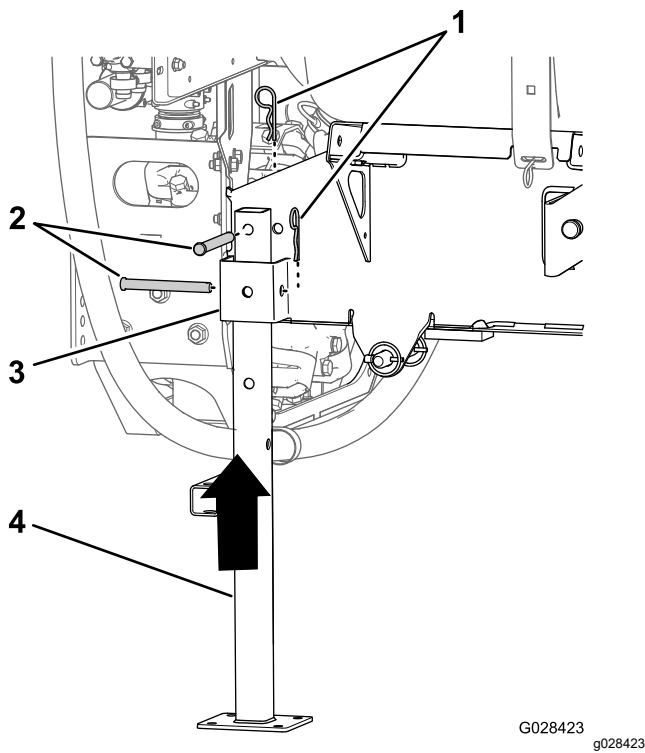

Figure 100
5. Align the rear jack stand with the rear jack-stand receiver (Figure 100).
6. Align the hole in the top of the jack stand with the hole in the frame of the tank skid (Figure 100)
7. Secure the jack stand to the receiver and the frame with 2 clevis pins (1/2 x 4-1/2 inches) and 2 hairpins (5/32 x 2-5/8 inches) as shown in Figure 100.